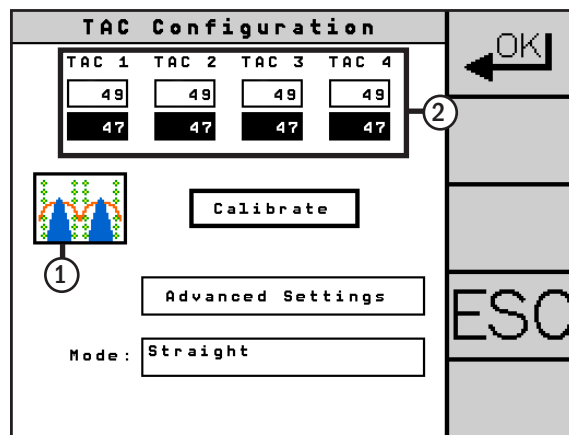

Fig. 236: Different sensor input configuration selected
The selected sensor input configuration is displayed (1) and the number of sensors is adjusted (2) (see Fig. 236).